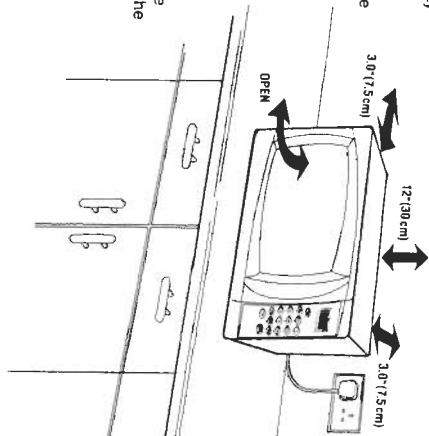

fig. 3
1. Select a level surface that provides enough clear space for the intake and/or outlet vents (see Fig. 3).